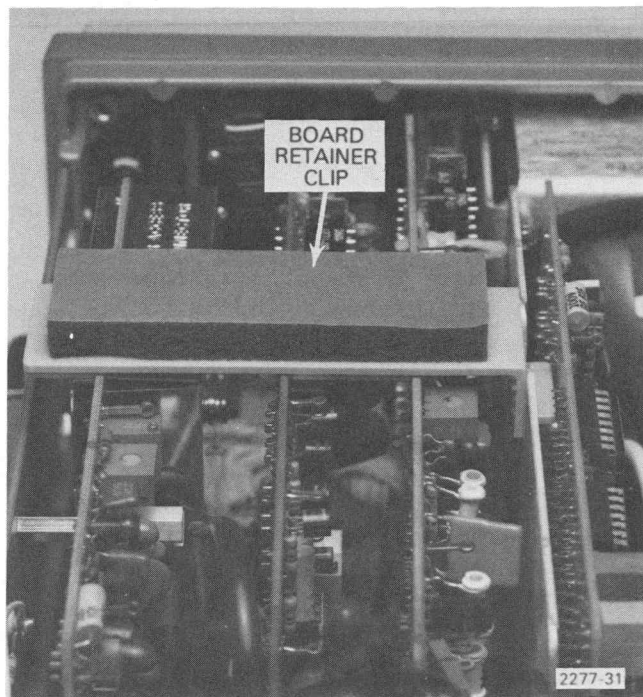

Figure 4-2. Board retainer clip installation.
Be sure board retainer clip is in place before replacing top cover. See Figure 4-2.
f. CHECK—Plastic board retainer is installed and properly seated at top of circuit boards. (See Figure 4-2.)